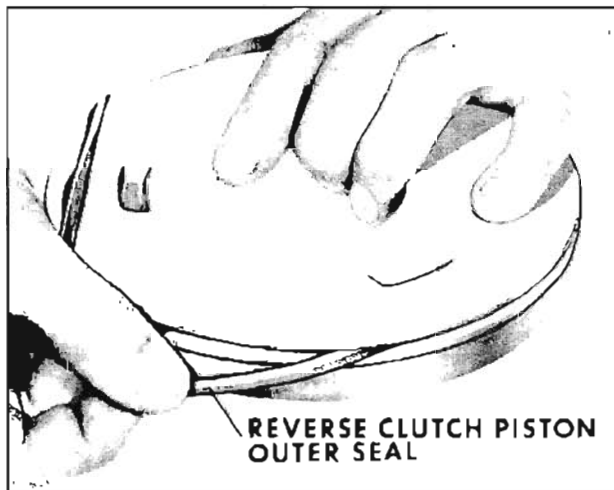

Fig. 6-408 Reverse Piston Outer Seal
1. Examine reverse clutch piston outer seal. If nicked, torn or worn, remove seal. (Fig. 6-408)
2. Lubricate with transmission oil and install reverse clutch piston outer seal. (Fig. 6-408)